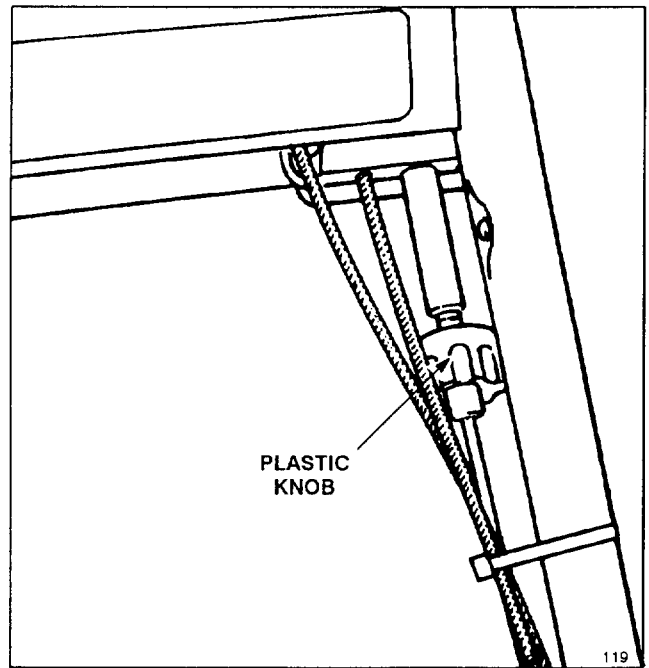

Figure 17
3. To adjust wheel drive cable, rotate knob under left front of control panel (Fig. 17). Rotate knob in positive (+) direction to increase the distance between the control bar and handle. Turn knob in negative direction (-) to decrease the distance between the control bar and handle.